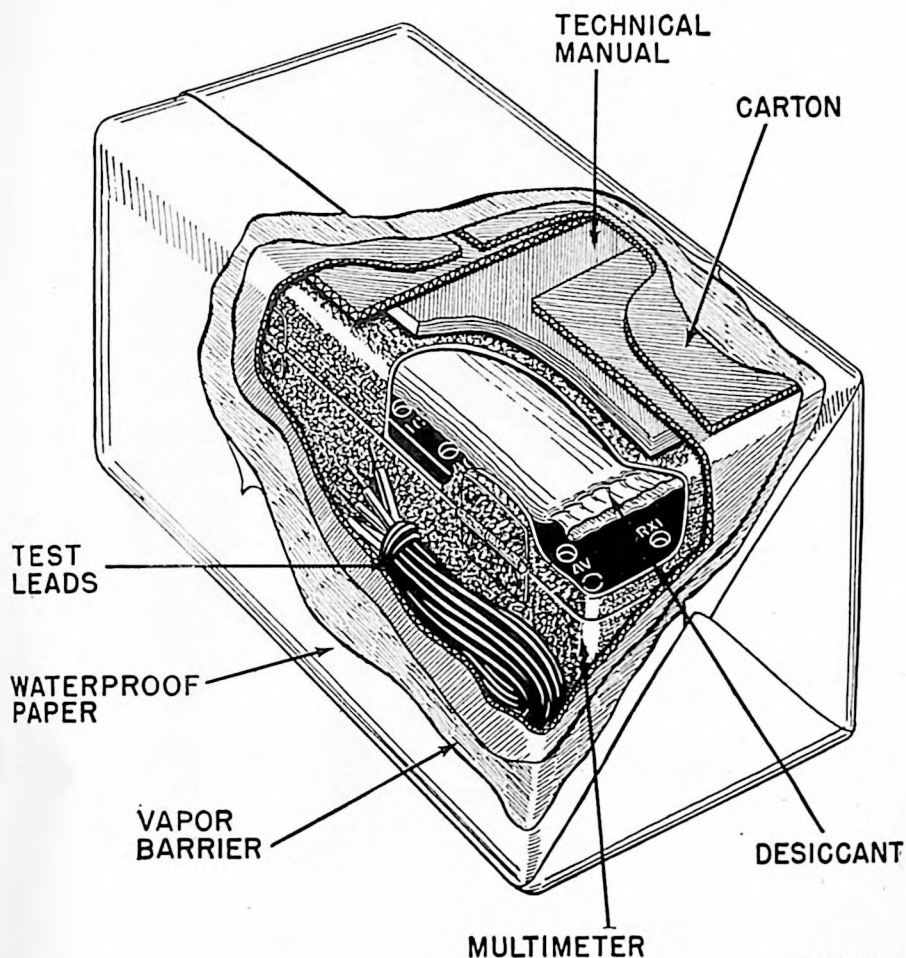

Fig. 4. Multimeter TS-297/U, cutaway view showing packaging details.
Packed for export shipment (fig. 4), Multimeter TS-297/U is contained in a heavy cardboard carton 7 $\frac{1}{2}$ inches long, 5 $\frac{1}{2}$ inches wide, and 4 $\frac{1}{2}$ inches high. The volume of the carton is 186 cubic inches, and the shipping weight is 3 pounds, 5 ounces.
6. Unpacking and Checking (fig. 4)
- a. UNPACKING. (1) Remove outer wrapping of waterproof paper.